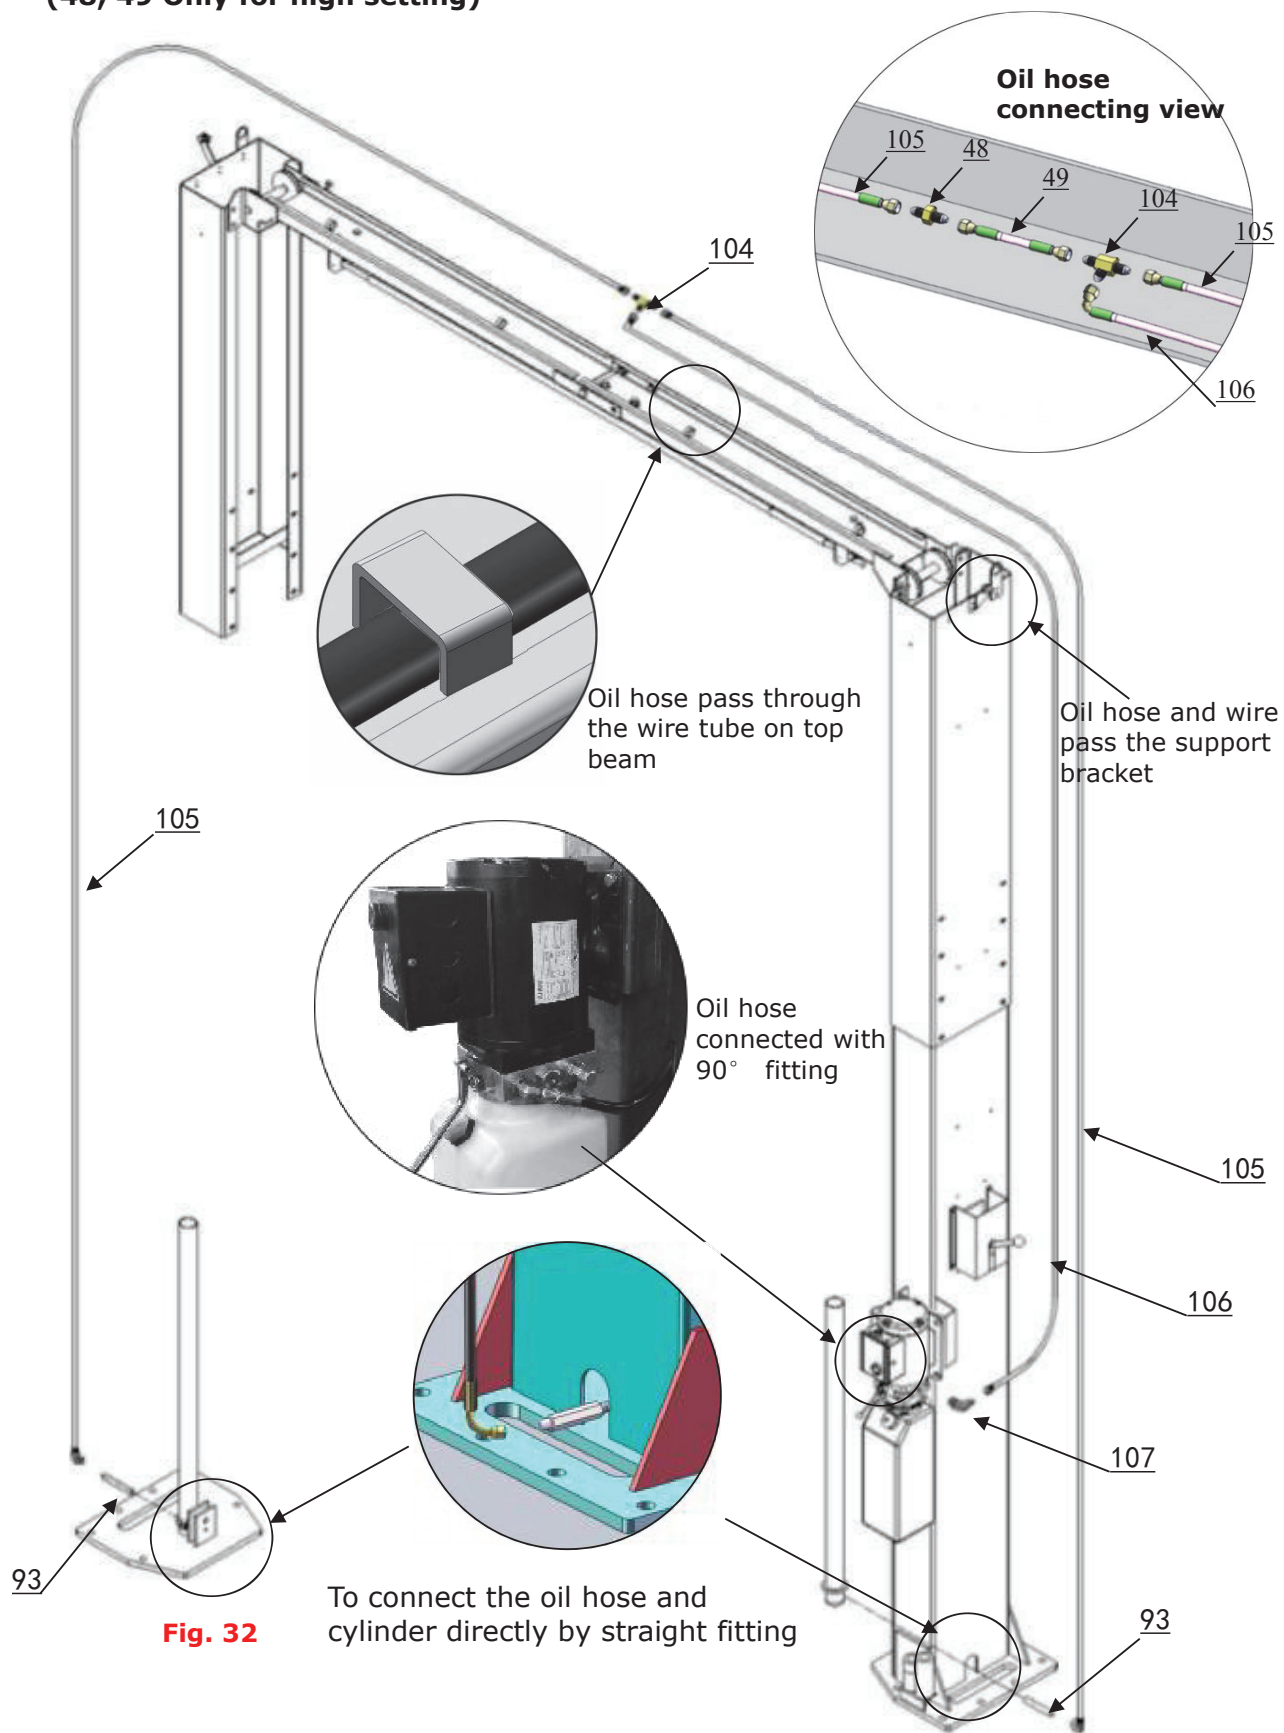

**Fig. 31**
**L. Install power unit (See Fig. 31)**